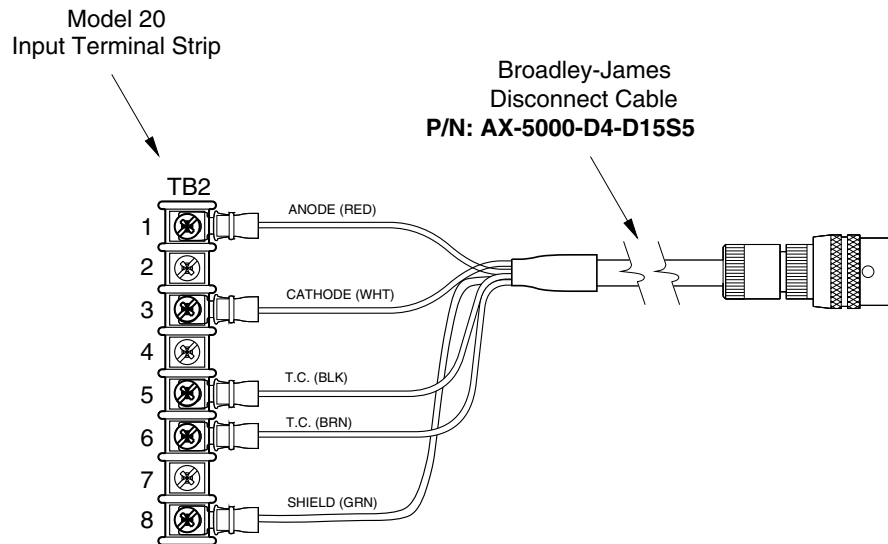

FIGURE 2-8. Model 20-03 DO Sensor Wiring
2.3.3 Sensor. Refer to Figure 2-8 and the OxyProbe® sensor instruction manual P1431 for additional wiring instructions. DO NOT install the sensor in the process at this time.